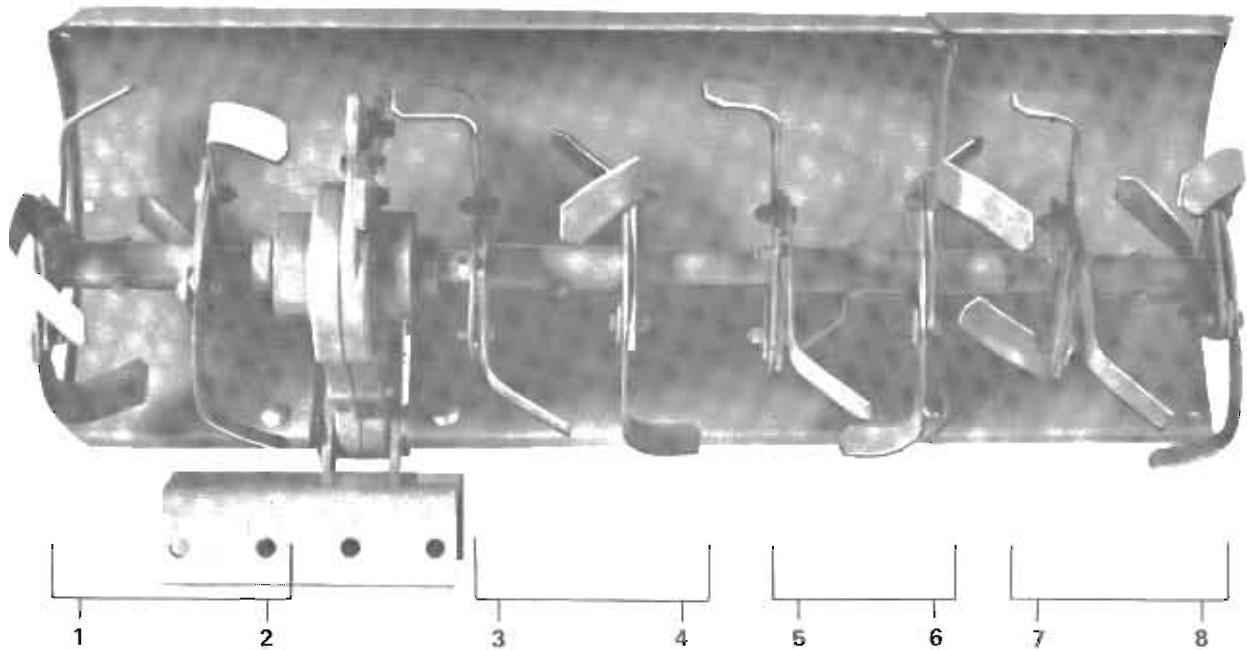
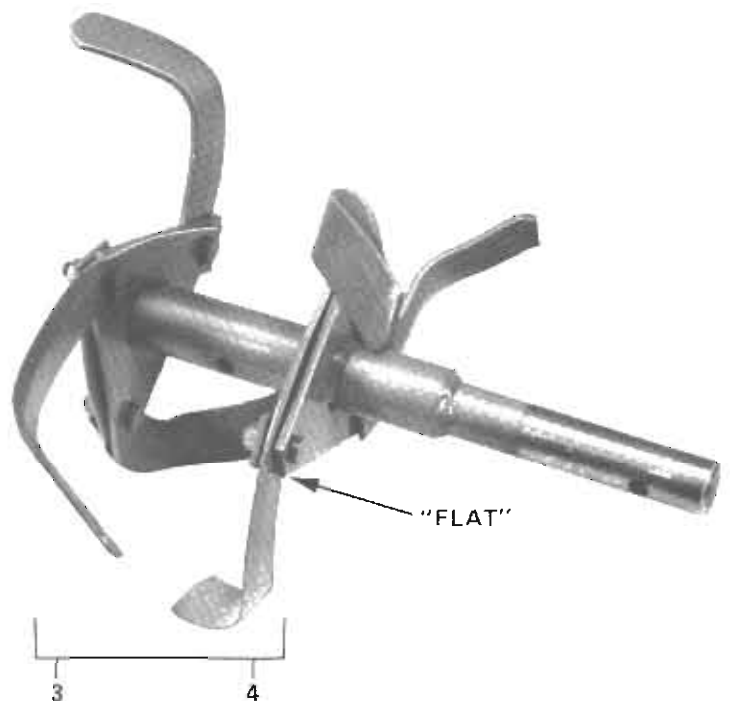

FIGURE 9 TINE SECTION 3 and 4 CONVERTED TO RIGHT SIDE FOR OFFSET TILLING
FIGURE 10 SECTIONS 3 and 4 ILLUSTRATING TINES CONVERTED FOR OFFSET MOUNTING TO RIGHT SIDE OF BASIC TILLER
The tiller, including extension, consists of four individual sections, each having six removable tines and two welded triangular mounting plates. One of the corners on each mounting plate has a "flat" (Refer to Figure 10) where an identification number is stamped. With the extension on
If required, tine section "3" and "4" can be removed, converted and installed as the center section on the right side as shown in Figure 9 for offset tilling. Remove, reverse and reassemble the tines as illustrated in Figure 10.
3. 27" Tilling Width - Remove section "1 and 2" altogether. Convert section "3 and 4" as shown in Figure 9 and relocate to the right side of the chain case. This results in 27" of cutting width with tine section "7 and 8" offset.